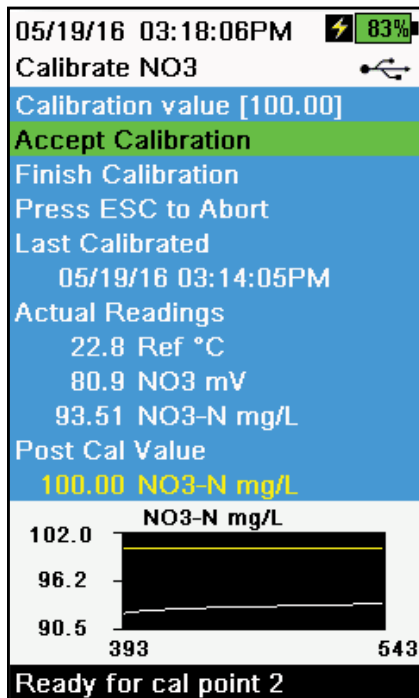

Figure 43 Calibrate ISE
5. Observe the actual measurement readings for stability (white line on graph shows no significant change for 40 seconds), then select **Accept Calibration** (Figure 43). "Ready for cal point 2" will be displayed in the message area.
10. Observe the actual measurement readings for stability (white line on graph shows no significant change for 40 seconds), then select **Accept Calibration** (Figure 43). "Ready for cal point 3" will be displayed in the message area.